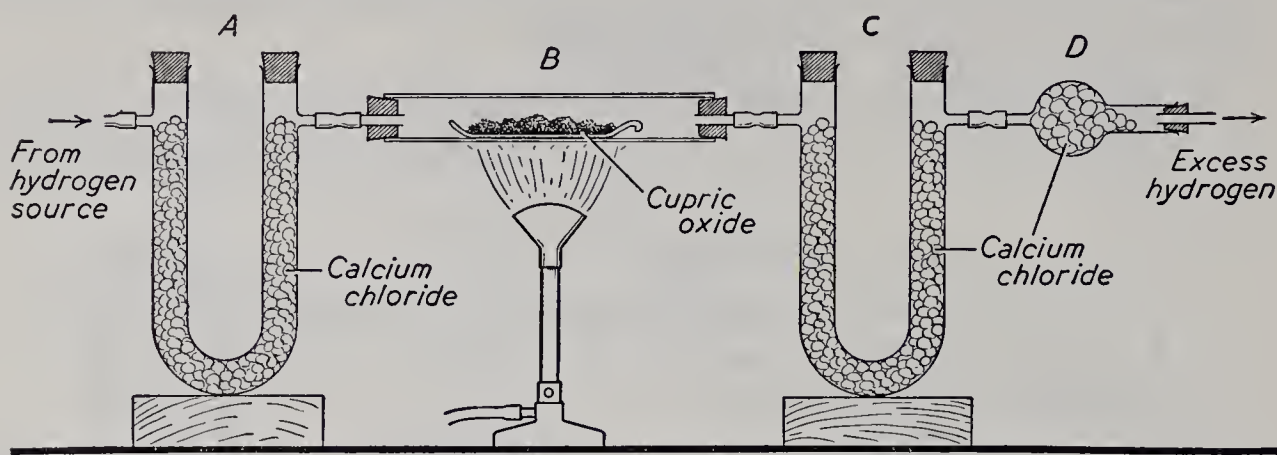

Fig. 41. Finding the percentage composition of water by weight.
The apparatus used (Fig. 41) consists of three drying tubes containing granular calcium chloride, a combustion tube and porcelain boat, a Bunsen burner fitted with a flame spreader, and a hydrogen generator (not shown in the diagram). Weigh together the drying tubes (C) and (D) and record the weight. Nearly fill the boat with cupric oxide, place it in the combustion tube and weigh the tube and contents together. Record this weight. Assemble the complete apparatus and connect it to a hydrogen generator. Pass hydrogen through the assembled tubes until all the air has been driven from them. To make certain that hydrogen has replaced the air in the system, test at the exit tube for pure hydrogen (see Experiment 27). When hydrogen only is escaping, then, *and not until then*,
heat the combustion tube as shown in Fig. 41. Heat strongly for 5 minutes and then remove the flame and allow the tube and